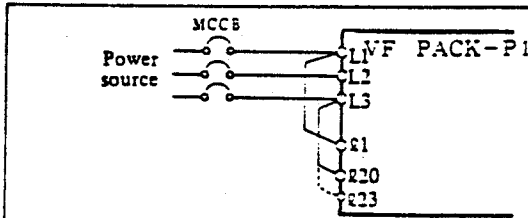

Fig. 7-3 In Case Electromagnetic MC is Not Used
- (h) In case electromagnetic contactor MC is not used in power source circuitry, as shown in Fig. 7-3 below, connect power source with main power source terminals L1, L2 and L3, as well as with control power source terminals R1 and R2, through non-fuseable breaker MCCB.